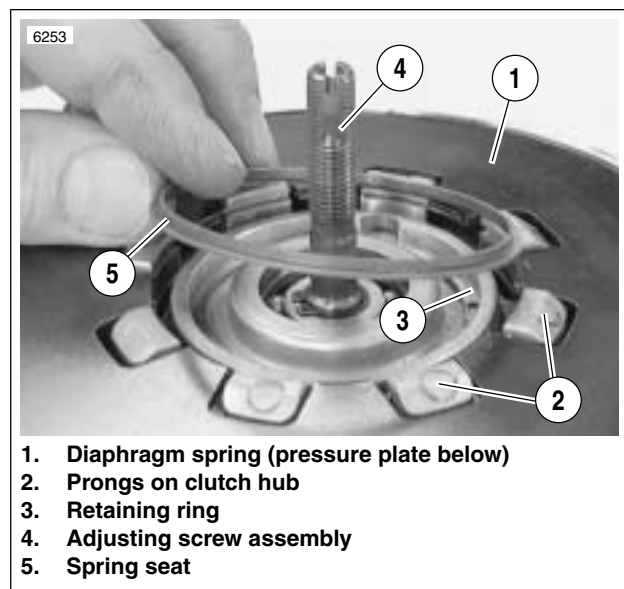

Figure 6-18. Spring Seat Installation
- a. See Figure 6-18. Align square openings of pressure plate and diaphragm spring so that the assembly can be installed over prongs on clutch hub.